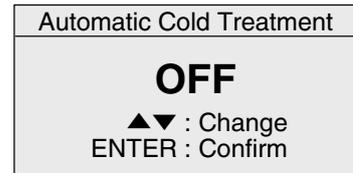

Fig. 1 Previous setting screen
Step 2. When selecting "ON" and determining by pressing key, the previous setting screen appears (Fig. 1).